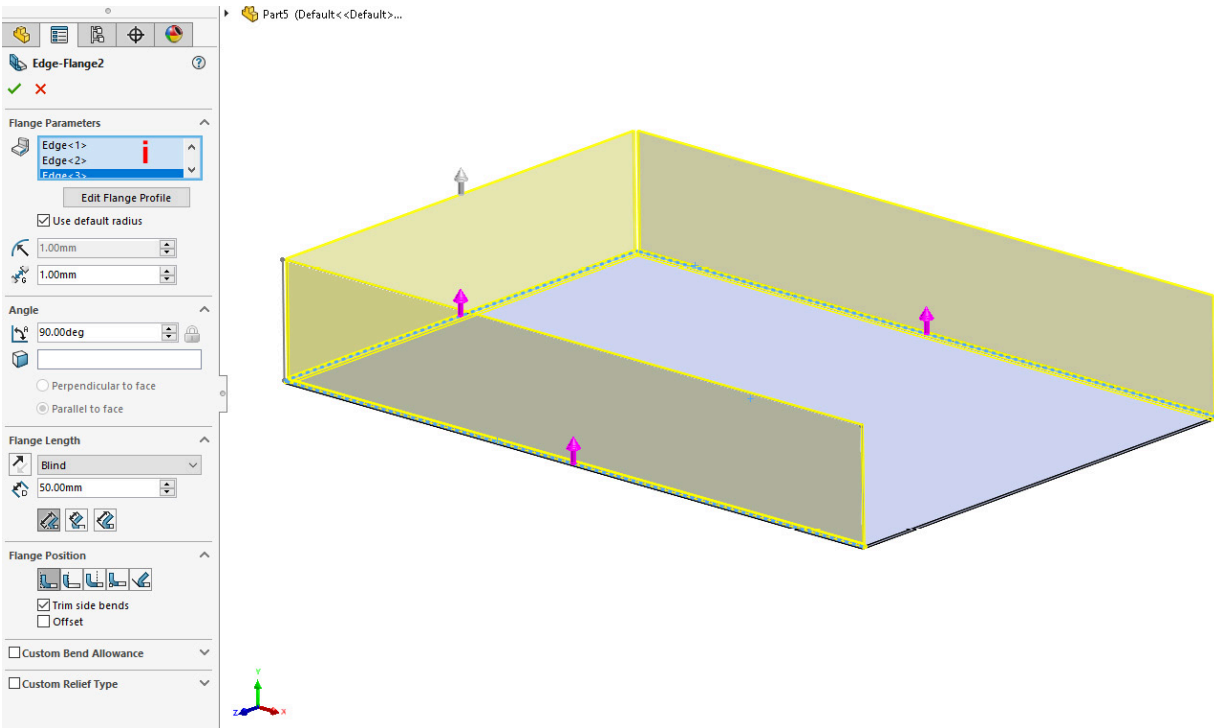

Figure 2.14: Adding multiple Edge Flanges
2. To add multiple edges, first, ensure that you have the **Edge** selection box selected (*Figure 2.14, (i)*), and then, left-click on the edges where you wish to add flanges. Try selecting the two long sides of the Base Flange, in addition to the one short side that was already selected (*Figure 2.14*).